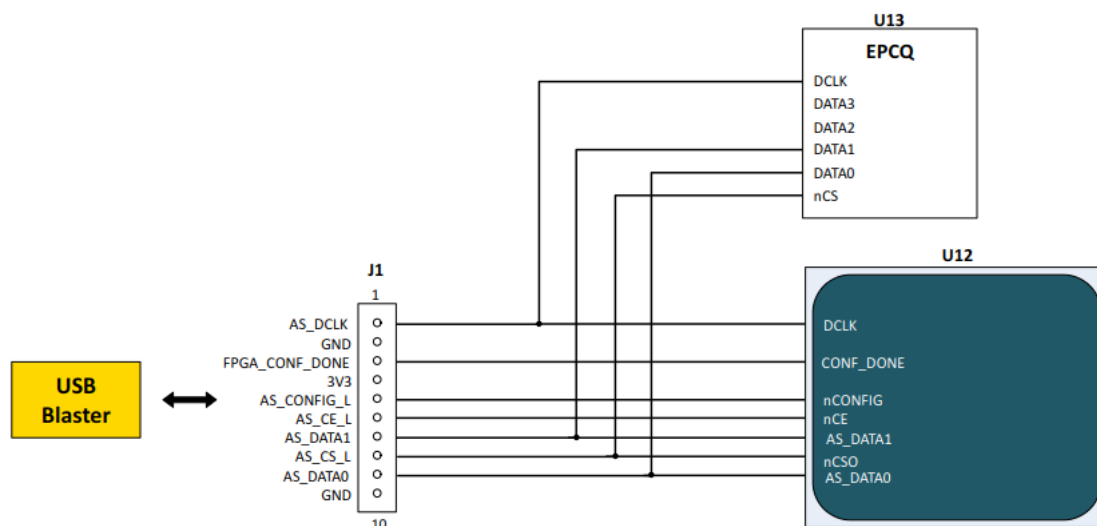

Figure 16 : Direct Programming
The direct programming uses the Active-Serial (AS) interface. Connect USB Blaster to header connector (J1) to program as shown in Figure 16.